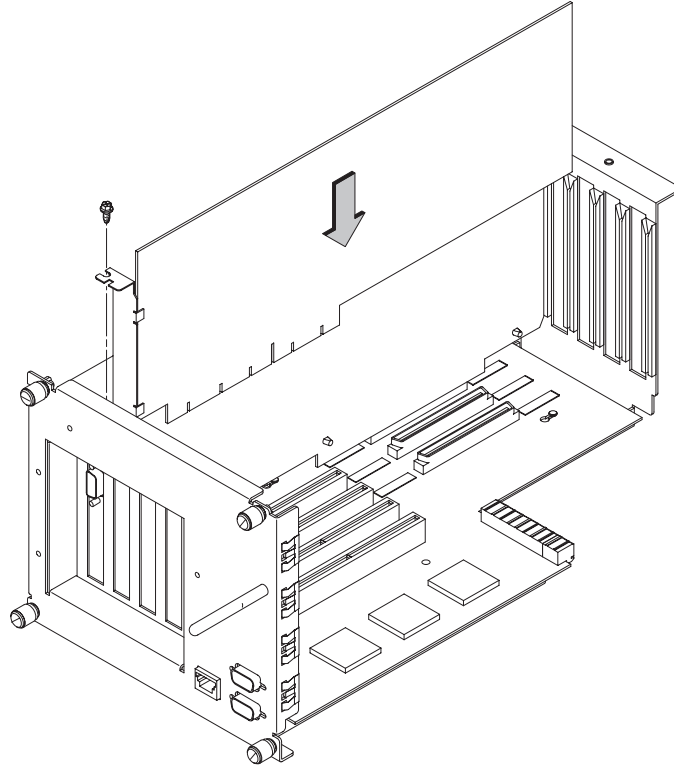

Figure B-39. Installing a PCI, GSC, or EISA or Graphics Board in the PCI/EISA Assembly
5. Place PCI, GSC, or EISA board you are installing in the board guides and slide firmly into the connector. Check to see the board is evenly inserted to seat properly. See Figure B-39.